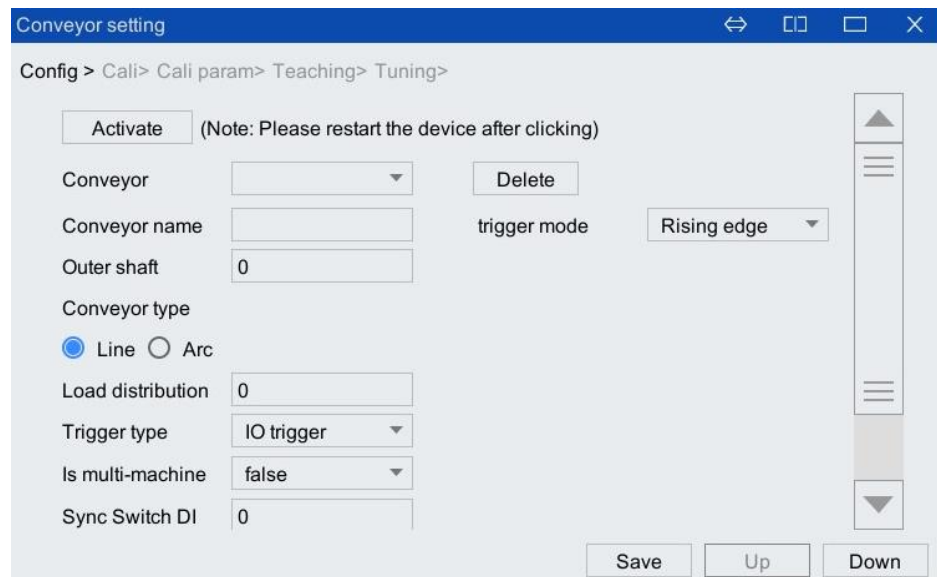

Figure 5-2 Activate the conveyor belt operation interface
Step2. Enter the [Conveyor setting] interface, and click <Activate> at the upper left corner of the interface, as shown in Figure 5-2.